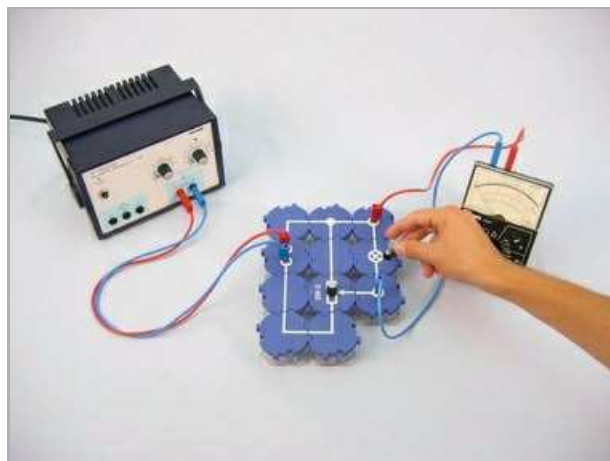

Fig. 7
- Complete the circuit by fitting in the filament lamp (Fig. 7).